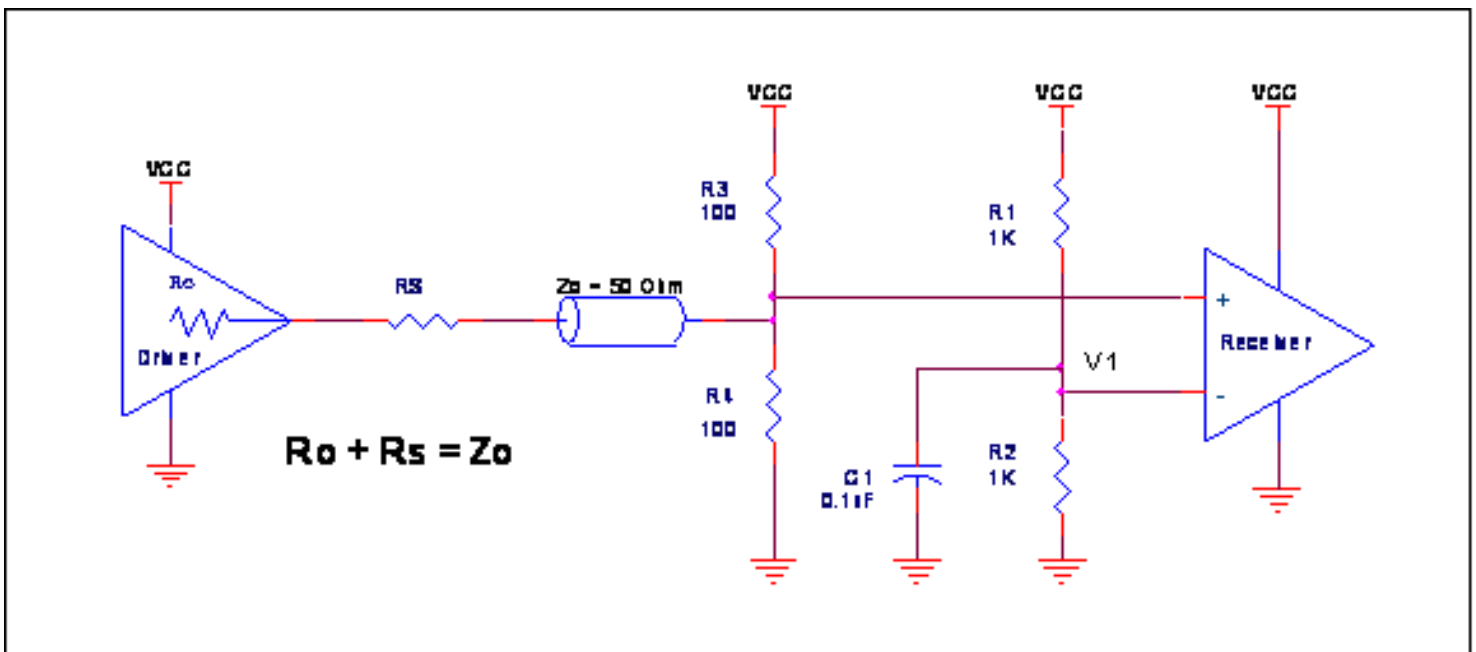

Figure 2. Recommended Schematic for Wiring a Differential Input to Accept Single-ended Levels
*Figure 2* shows how a differential input can be wired to accept single ended levels. The reference voltage  $V_1 = V_{CC}/2$  is generated by the bias resistors R1 and R2. The bypass capacitor (C1) is used to help filter noise on the DC bias. This bias circuit should be located as close to the input pin as possible. The ratio of R1 and R2 might need to be adjusted to position the  $V_1$  in the center of the input voltage swing. For example, if the input clock swing is 2.5V and  $V_{CC} = 3.3\text{V}$ , R1 and R2 value should be adjusted to set  $V_1$  at 1.25V. Similarly, if the input clock swing is 1.8V and  $V_{CC} = 3.3\text{V}$ , R1 and R2 value should be adjusted to set  $V_1$  at 0.9V. It is recommended to always use R1 and R2 to provide a known  $V_1$  voltage. The values below are for when both the single ended swing and  $V_{CC}$  are at the same voltage. This configuration requires that the sum of the output impedance of the driver ( $R_o$ ) and the series resistance ( $R_s$ ) equals the transmission line impedance. In addition, matched termination at the input will attenuate the signal in half. This can be done in one of two ways.